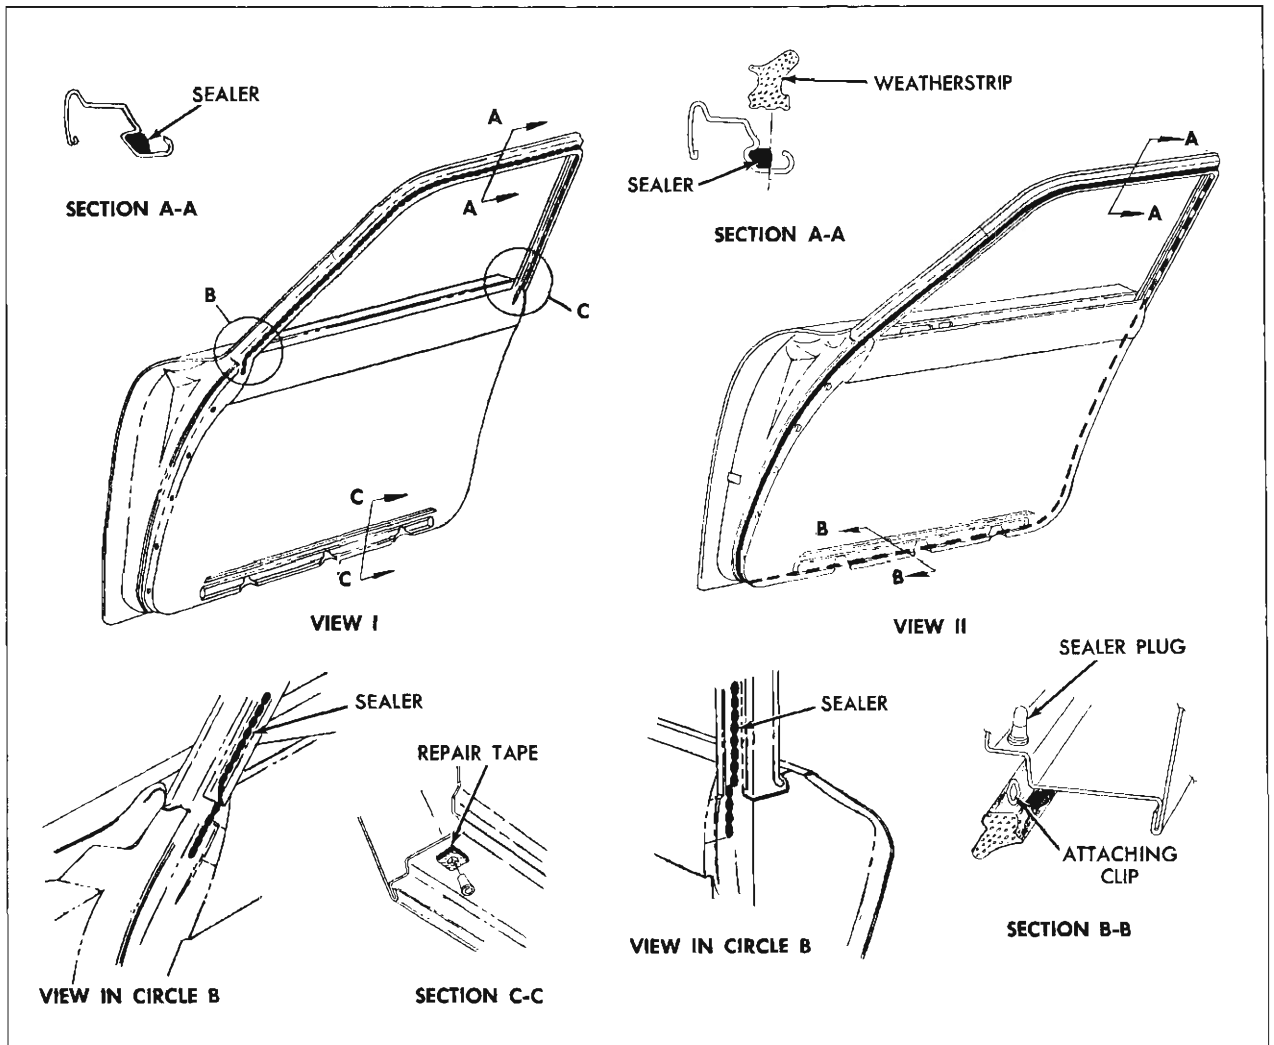
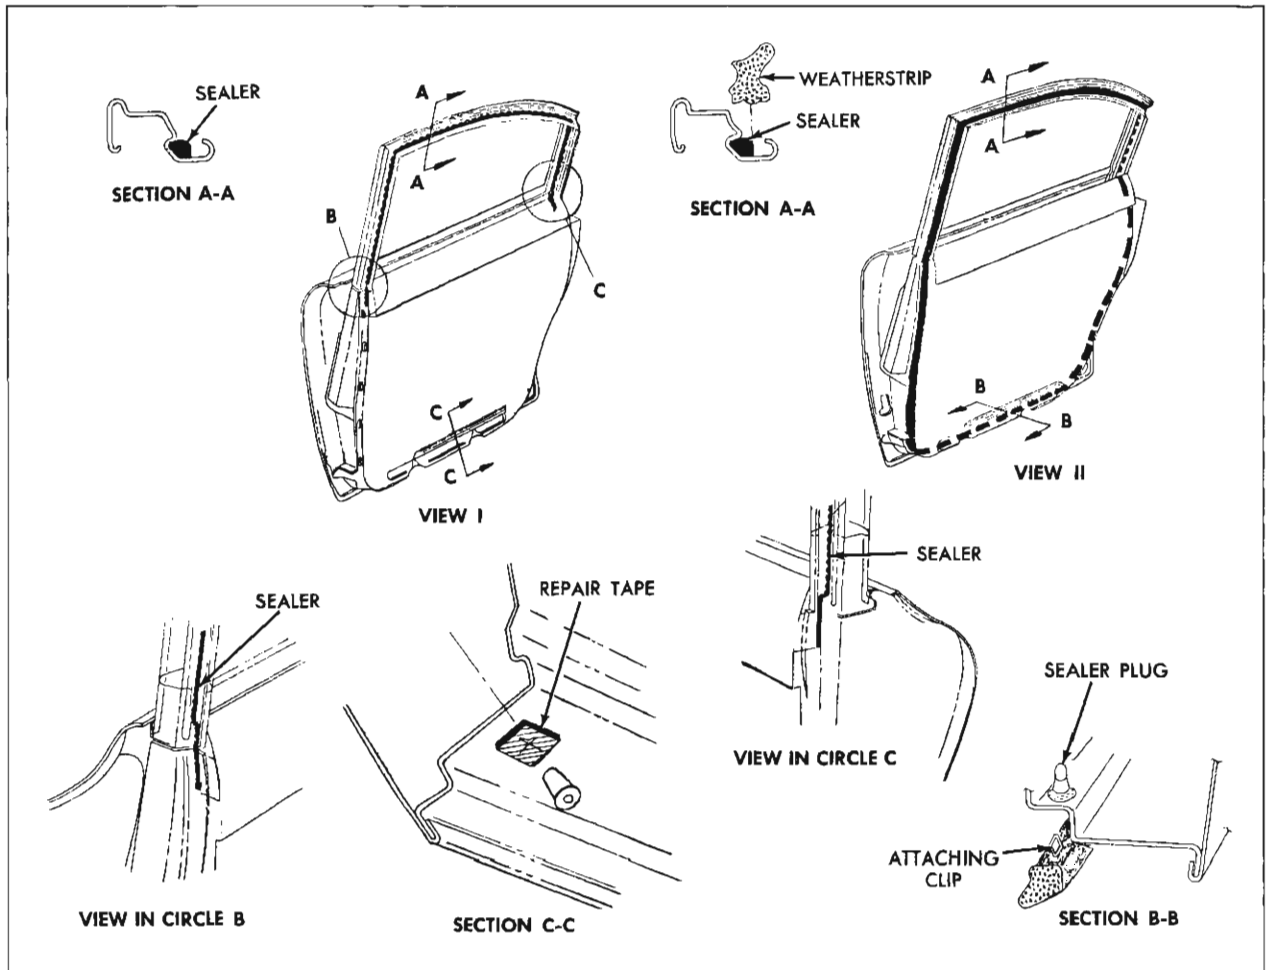
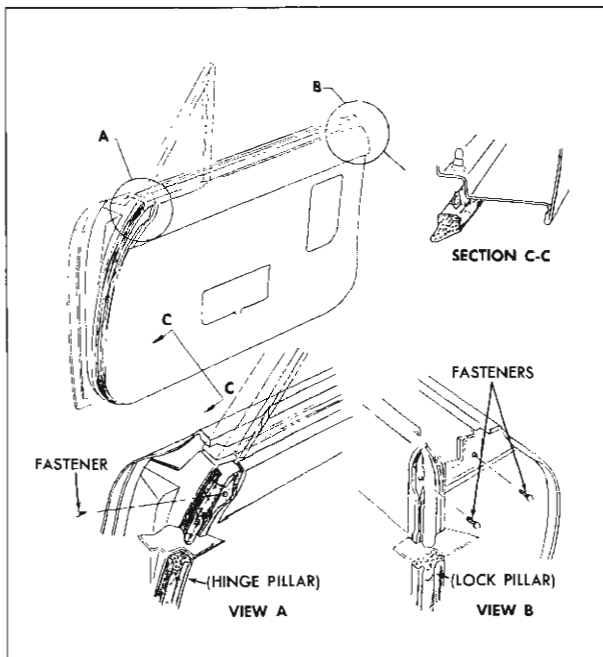

Fig. 12-7 Front Door Weatherstrips
Fig. 12-8 Rear Door Weatherstrips
Fig. 12-9 Front Door Weatherstrip Fasteners
as shown in Section "C-C" of Fig. 12-7. Make two  $\frac{5}{16}$ " slits in tape to form an "X". Install plug and check for a snug fit. If plug is still loose, repeat above operation by installing a second piece of tape over existing repair. This procedure may also be used to repair waterleaks which develop at sealing plug locations (See Fig. 12-7 and Fig. 12-8).
4. Prior to installation of weatherstrip on either door, apply a continuous bead of an approved weatherstrip cement extending from approximately one (1) inch below window frame at hinge pillar section (see view "B" of view I) along entire outboard portion of door weatherstrip retaining channel (see Section "A-A" or view I) to approximately one (1) inch below lock pillar section of window frame assembly as shown in view "C" of view I (Fig. 12-7 and 12-8).
5. Starting at uppermost clip hole on either door pillar, install clips to door by placing notched end of tool J-5757 in loop of clip and pushing clip into attaching hole sealing plug. Repeat operation along both sides and bottom of door (Fig. 12-7 and 12-8, Section "B-B" in view II).
6. Using a putty knife, or other suitable flat-bladed tool, install door weatherstrip into door window frame assembly (Figs. 12-7 and 12-8, Section "A-A" in view II).
1. With a screw driver, or other suitable tool, carefully snap weatherstrip fasteners, at belt line of hinge and lock pillar panels, from door (see views "A" and "B" in Fig. 12-9).
3. Insert tip of tool J-5757 at clip locations and carefully snap clips from retaining plugs and remove weatherstrip from door (See Fig. 12-7 and section "C-C" in Fig. 12-9).
inner panel, install a  $\frac{1}{2}$ " x 1" piece of cloth-backed waterproof body tape over sealing plug retaining hole as shown in section "C-C" of Fig. 12-7 and 12-8). Make two (2)  $\frac{5}{16}$ " slits in tape to form an "X" pattern. Install plug and check for a snug fit. If plug is still loose, repeat above operation by installing a second piece of tape over existing repair. This procedure may also be used to repair waterleaks that may develop at sealing plug locations.
4. Prior to installation of weatherstrip, apply a bead of an approved weatherstrip cement at top four (4) inches of hinge and lock pillar panels.